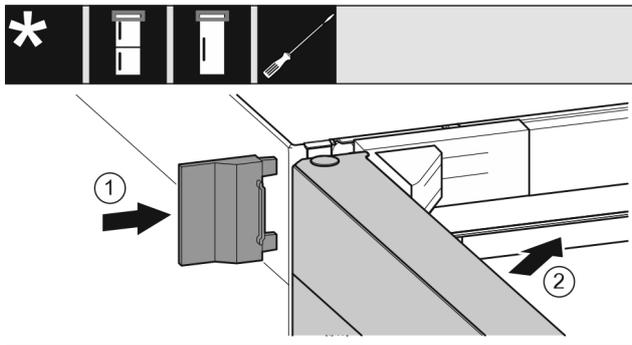

Fig. 66
- ▶ Push the outer cover Fig. 66 (1) on.
- ▶ Close the upper door Fig. 66 (2).